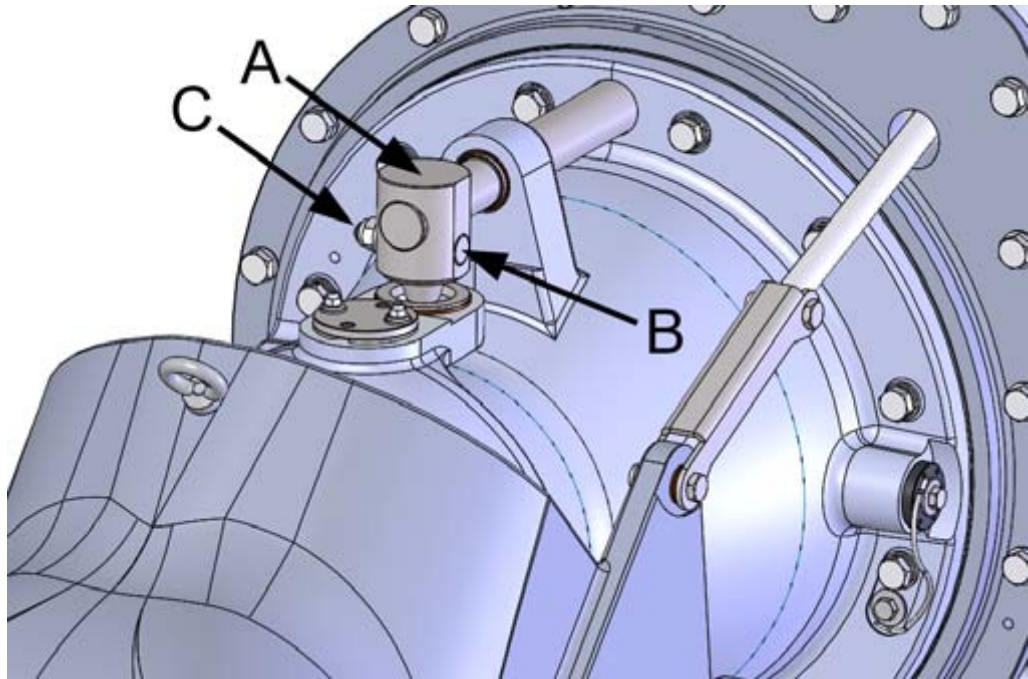

Figure 60. The shaft and the dowel pin
1. Remove the dowel pin (figure 60, point B) that locks the shaft of the steering nozzle to the steering shaft (figure 60, point A).
The dowel pin is attached to the shaft with a nut (figure 60, point C). At this point the reversing deflector should be in the down position.
1. Open the nut of the dowel pin that locks the shaft of the steering shaft into place (figure 60, point C) and remove the dowel pin (figure 60, point B) from the shaft.